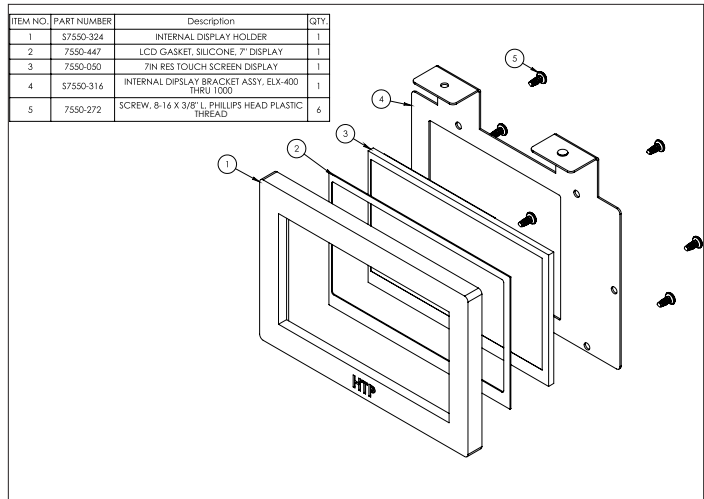
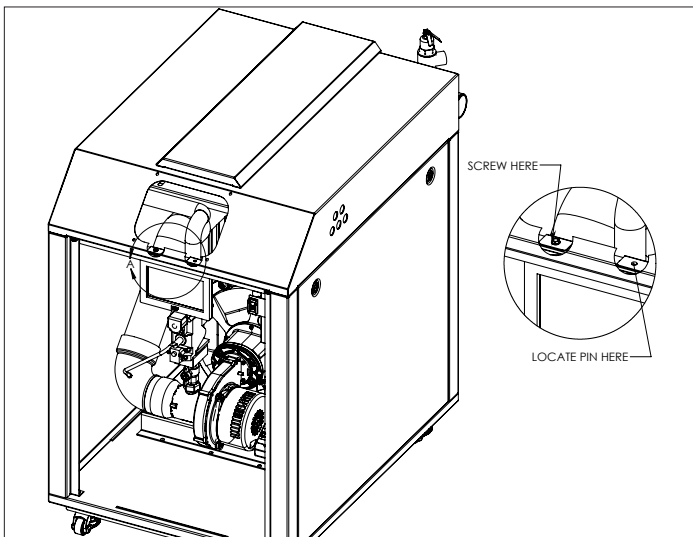
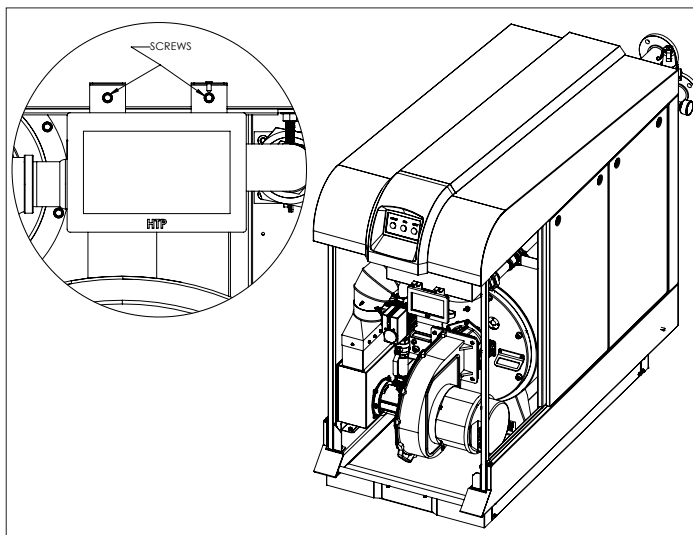

Figure 18 - Installing the Display into the Internal Assembly
Figure 19 - Display Installed in Internal Assembly - 400 - 1000 Models
Figure 20 - Display Installed in Internal Assembly - 1500 - 2000 Models
- Use a Phillips Head screwdriver to remove the six (6) screws securing the touch screen display to the assembly. Remove the touch screen.
- Install the touch screen display into the new internal assembly with the provided screws and bracket (Figure 18), then install the display onto the boiler. See Figure 19 for 400 - 1000 models, and Figure 20 for 1500 - 2000 models.